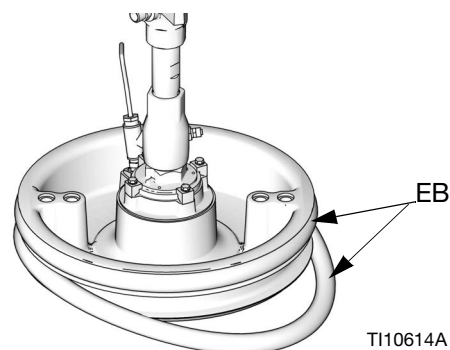

FIG. 34
1. Using a wooden or plastic tool to prevent damage to the Wiper (EB), clean all material from the seal grooves.
2. *Working from the bottom*, angle one Wiper (EB) over the back of the Platen (AD). See FIG. 34.
3. Insert the Wiper (EB) in the top groove and run the front of the Wiper into the groove.
4. If using a 55 gallon Platen, insert the second Wiper (EB) in the lower groove and run the front of the Wiper into the groove.